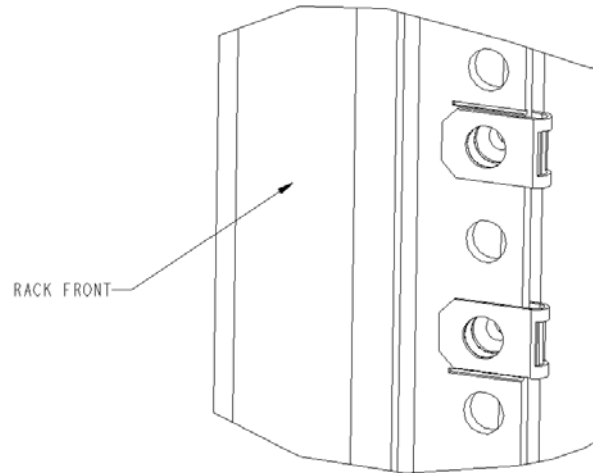

Figure 2-4. Installing the Tinnerman Clips (HP Rack)
- For an HP rack, install (2) M5 U-type Tinnerman clips for each of the front columns of the rack in the top and bottom positions of the three-hole EIA pattern as shown in Figure 2-4.